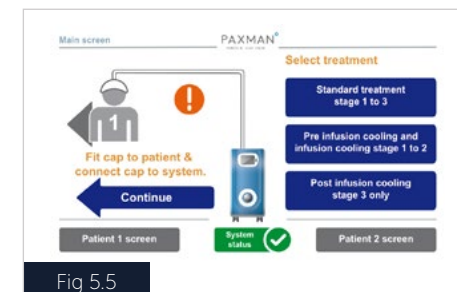

Fig 5.5
- To start pre-infusion cooling press the **Continue** button (Fig 5.5). This will activate the pump and start the flow of coolant through the cap. The cap will inflate slightly and the temperature of the cap will start to decrease. It will start to feel cold quite quickly. For the first 10 minutes the patient may experience some cold discomfort, but this will pass when the patient acclimatises to the cooling sensation.